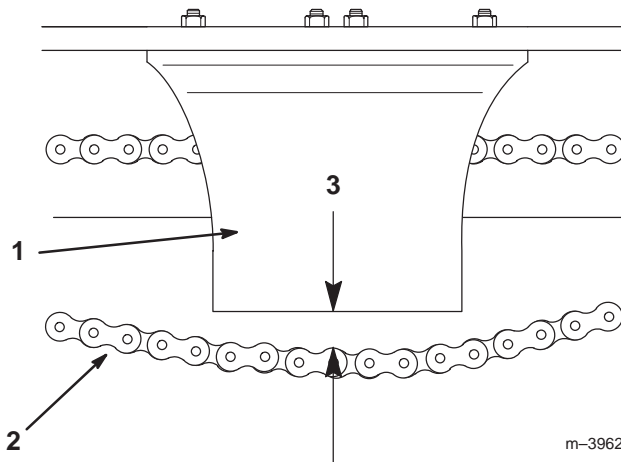

Figure 22
4. Measure the distance between the bottom of the chain guard and the lower chain span (Fig. 22). If the slack in the chain is not within 1–1/2 to 2–1/2 inches (3.8 to 6.35 cm), adjust the tension (refer to Adjusting the Tension).
6. Adjust the chain tensioning bolt until the distance between the bottom of the chain guard and the lower chain span is within 1–1/2 to 2–1/2 inches (3.8 to 6.35 cm) (Fig. 22).